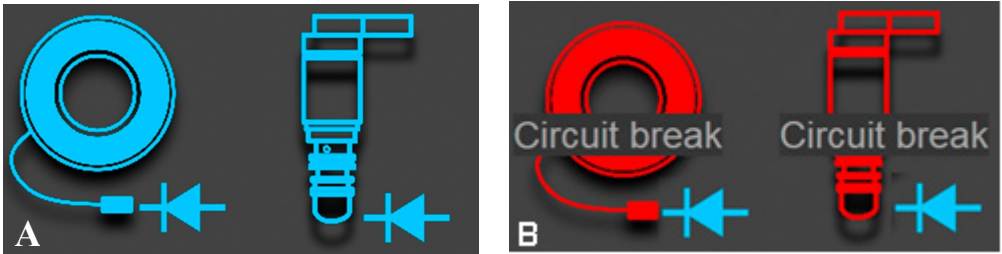

Figure 28. Electromagnetic clutch and/or valve test results:
6.1. Evaluate the performance of the electromagnetic clutch and/or valve. Press button “Clutch Valve test” on the main screen. The test results will be displayed in the form of graphs (Fig.28). If the tested element is faultless, it will be displayed in blue. Red color means the fault has been detected. The fault type will be displayed additionally, for example: “Short circuit” or “Circuit break”. If the diode is present, the corresponding icon will be displayed.